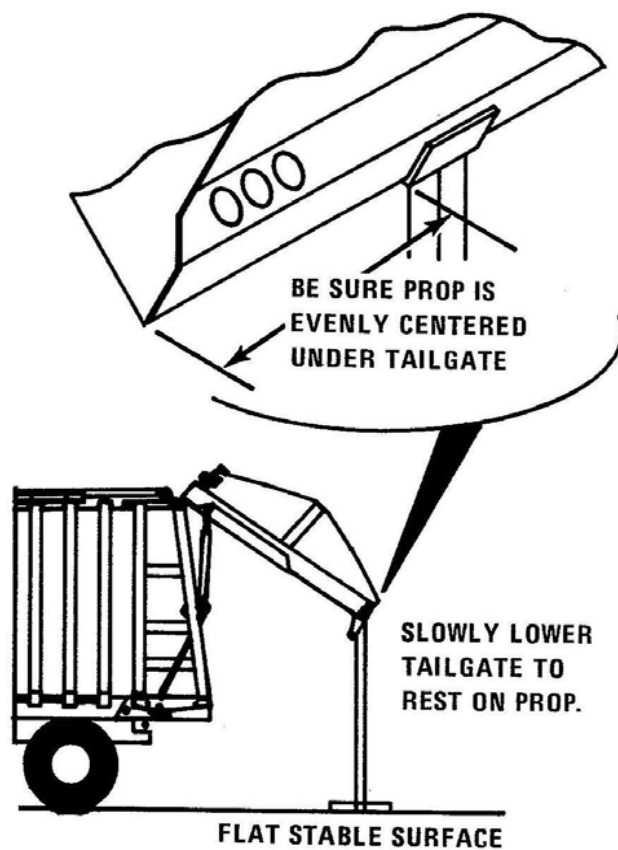

Figure 31. Setting the Alternate Tailgate Prop
3. Locate the prop in the center of tailgate. See Figure 31.
5. Block the raised body at its position with two 6" x 6" timbers (minimum size) of sufficient length or use railroad ties as shown in Figure 31 to support the body